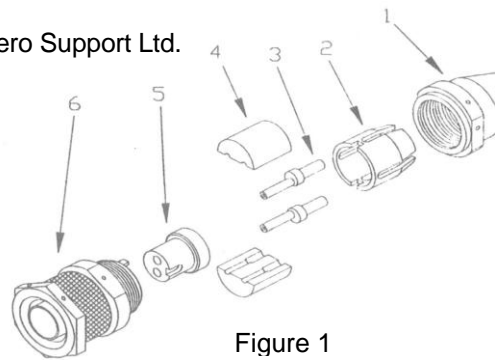

Figure 1
- 2) Insert cable through clamp nut (1, Fig 1) and cable clamp (2).
- 3) Install cable leads in socket contacts (3) and crimp the socket contacts to the cable leads using a crimp tool P/N 616935.
- 4) Insert socket contacts into connector insulator (5) and place two insulator halves (4) over socket contacts.
- 7) Using 0.025 inch diameter safety wire, wire the clamp nut securely to the shell assembly as shown in Figure 1.